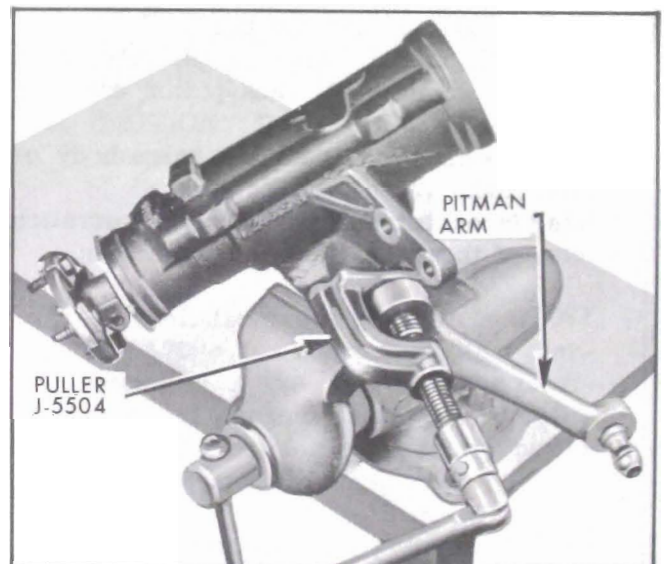

Figure 8-29—Removing Pitman Arm
8. Remove pitman arm from pitman shaft using Puller J-5504. See Figure 8-29.